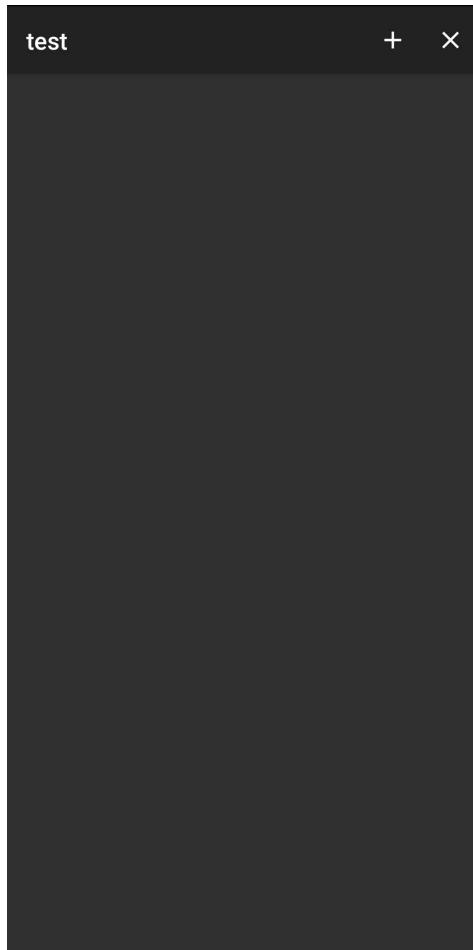

Figure 2.29: Test Room
11. Press the "+" in the upper right corner, add a room e.g. "test", press OK and pick a symbol. Your screen should look as like shown in Figure 2.29.